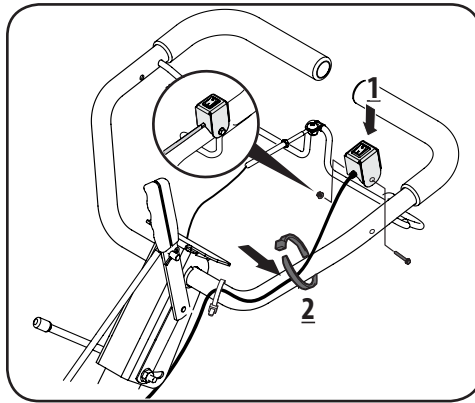

Figure 2-6
4. Mount the emergency stop control ON/OFF switch onto the left side of the handlebar with the #10-32 : 1.50 hex bolt and 10-32 flange lock nut. See 1 in Figure 2-6.
5. Secure the wire near the top of the handlebar with a cable tie on the left handlebar. See 2 in Figure 2-6.